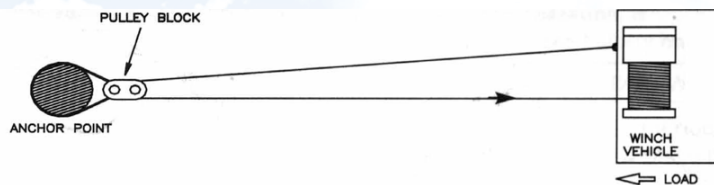

Figure 11
4. Figure 11 illustrate a method of rigging used to obtain a mechanical advantage. The use of a pulley block will almost double pulling line capacity.